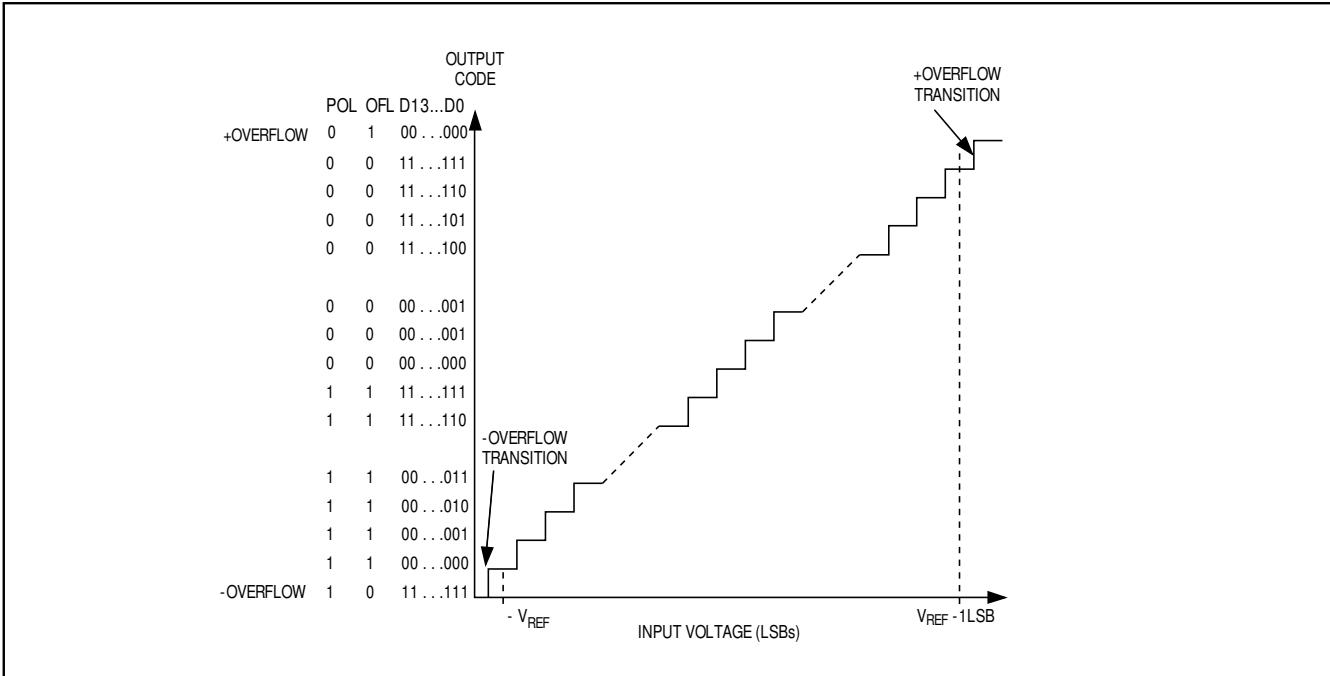
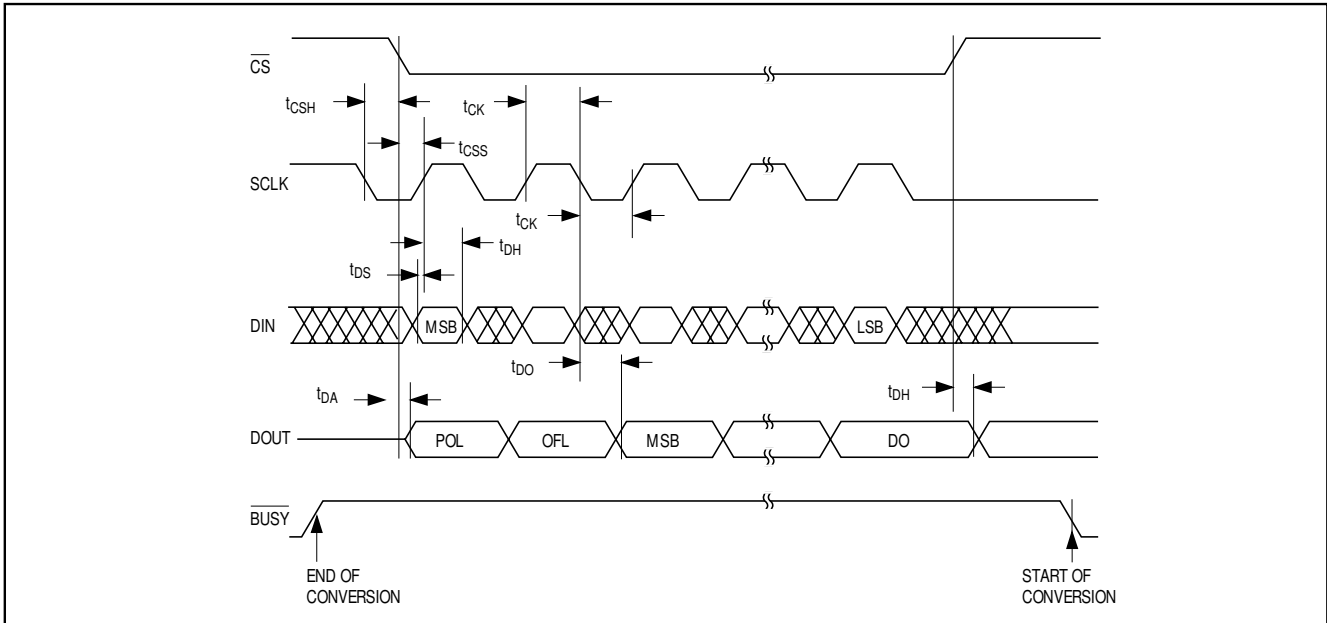

Figure 4. Differential Transfer Function
Figure 6. Detailed Serial-Interface Timing
The output data from the MAX110/MAX111 is arranged in twos-complement format (Figures 4, 5). The sign bit (POL) is shifted out first, followed by the overrange bit (OR), and the 14 data bits (MSB first) (see Figure 6). The MAX110 operates from  $\pm 5V$  power supplies and converts low-frequency analog signals in the  $\pm 3V$  range when using the maximum reference voltage of  $V_{REF} = 3V$  ( $V_{REF} = V_{REF+} - V_{REF-}$ ). Within the  $\pm 3V$  input range, greater accuracy is obtained within  $\pm 2.5V$  (see *Electrical Characteristics* for details). Note that a negative input voltage is defined as  $V_{IN-} > V_{IN+}$ . For the MAX110, the absolute voltage at any analog input pin must remain within the  $(V_{SS} + 2.25V)$  to  $(V_{DD} - 2.25V)$  range.
Data is transferred into and out of the serial I/O shift register by pulling  $\overline{CS}$  low and applying a serial clock at SCLK. This fully static shift register allows SCLK to range from DC to 2MHz. Output data from the ADC is clocked out on SCLK’s falling edge and should be read on SCLK’s rising edge. Input data to the ADC at DIN is clocked in on SCLK’s rising edge. A new conversion begins when  $\overline{CS}$  returns high, provided the MSB in the input control word ( $\overline{NO-OP}$ ) is a 1 (see *Using the MAX110/MAX111 with MICROWIRE, SPI, and QSPI Serial Interfaces*). Figure 6 shows the detailed serial-interface timing diagram.